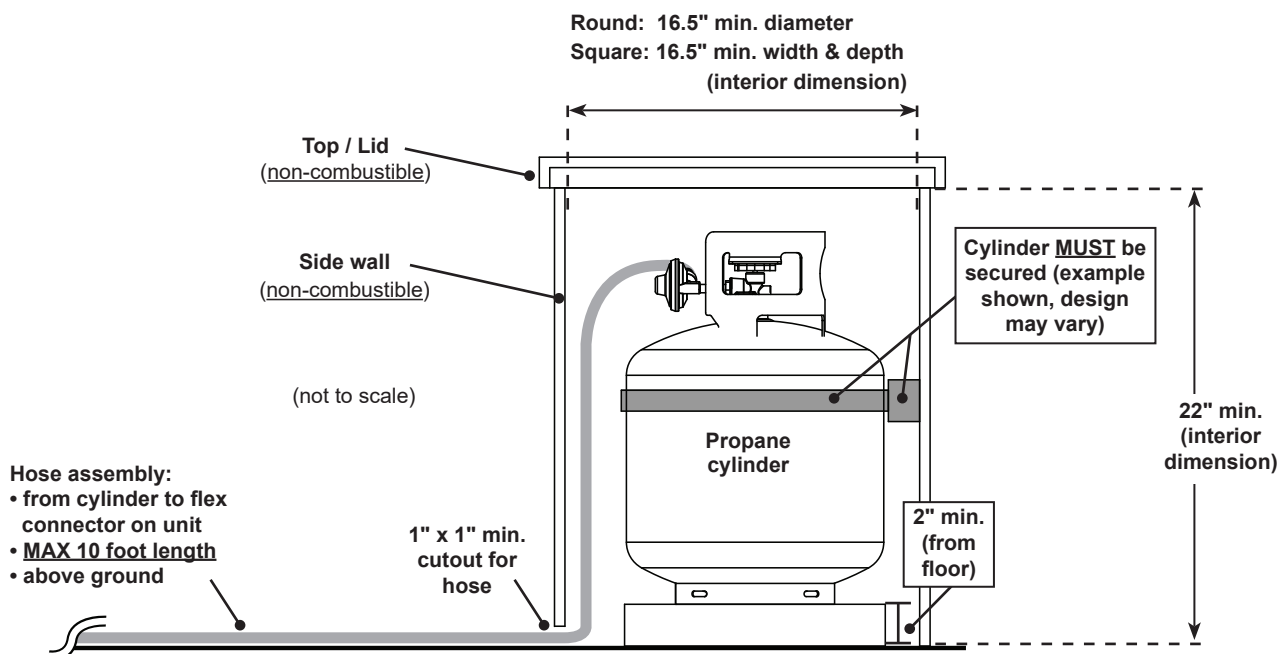

Fig. 17-1 Propane cylinder enclosure specifications (side view)
The cylinder enclosure can be constructed according to your individual preference, while following all guidelines found in this manual. **The enclosure MUST (see Fig. 17-1):**
- have minimum dimensions as illustrated in Fig. 17-1